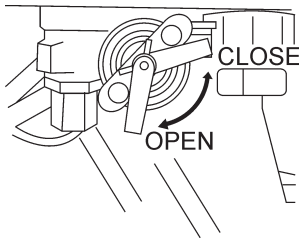

Figure 7. Open Fuel Cock
2. Open the fuel cock (Figure 7).